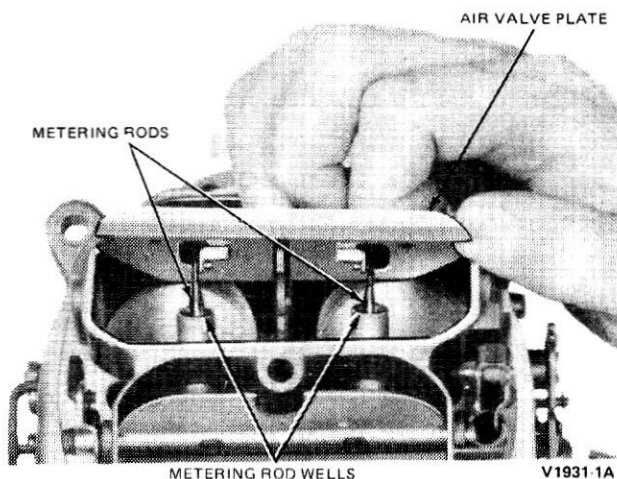

FIG. 29 Removing Air Valve Plate
10. If it is necessary to remove the secondary air valve plates or shaft proceed as follows: **Do not perform this operation with carburetor on engine, as parts may fall through to intake manifold.** Remove the C-clip from the secondary air valve plate link from the damper lever. Remove the link from the damper lever. Then remove the air valve plate retaining screws. Slide the shaft out of the body. **Note that there are spacers used at either end of the shaft.** Lift the air valve plate and attached metering rods out of the carburetor (Fig. 29).